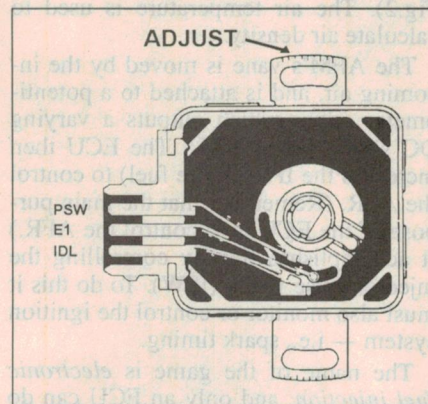

Fig.5: The throttle position switch is adjusted by loosening its mounting bolts and rotating the body.
**ERRATIC IDLING:** The throttle position switch is probably out of adjustment — see Fig.5. (NOTE: First make sure that the throttle linkage is correct. If it's too tight, this will cause idling problems. On the other hand if the link-